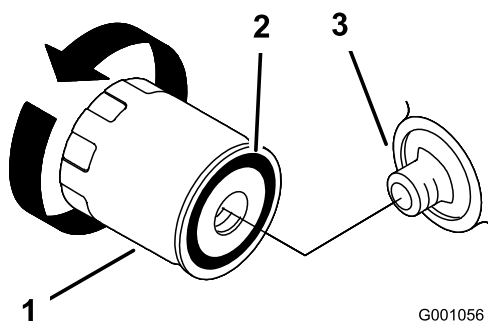

Figure 23
2. Remove the old filter and wipe the filler adapter gasket surface (Figure 23).
3. Apply a thin coat of new oil to the rubber gasket on the replacement filter (Figure 23).
4. Install the replacement oil filter to the filter adapter, turn the oil filter clockwise until the rubber gasket contacts the filter adapter, then tighten the filter an additional 2/3 to 1 turn (Figure 23).